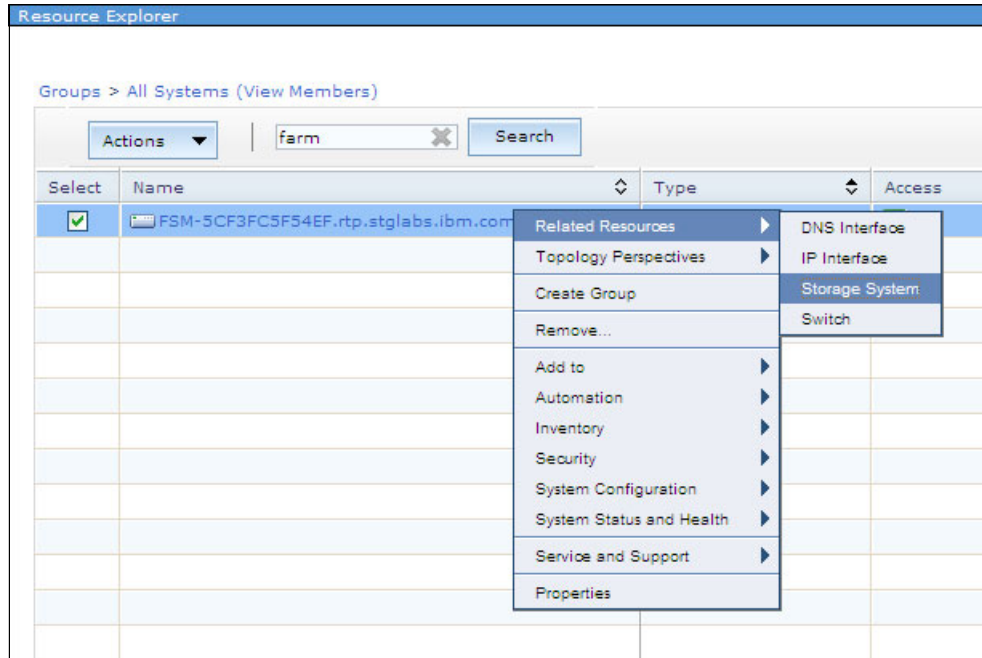

Figure 10-78 Checking the farm resources
2. Check that related resources exist in the farm by right-clicking the farm name and selecting **Related Resources** → **Storage System**, as shown in Figure 10-78.